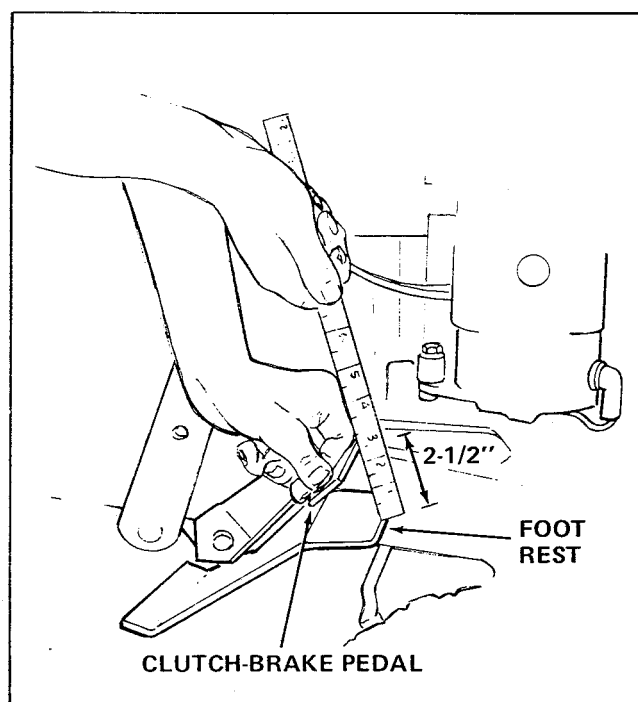

Figure 14. Brake Rod Check
Brake Rod Adjustment. With clutch-brake pedal pressed down fully, measure the clearance between the pedal and the foot rest as shown in figure 14. The clearance should be approximately 2-1/2 inches. If not, adjust the brake rod as follows:
2. Adjust position of elastic stop nut (item F, figure 14) on brake rod (item E). Move the nut toward the spring if the clearance was less than 2-1/2 inches; move the nut away from the spring if the clearance was more than 2-1/2 inches.